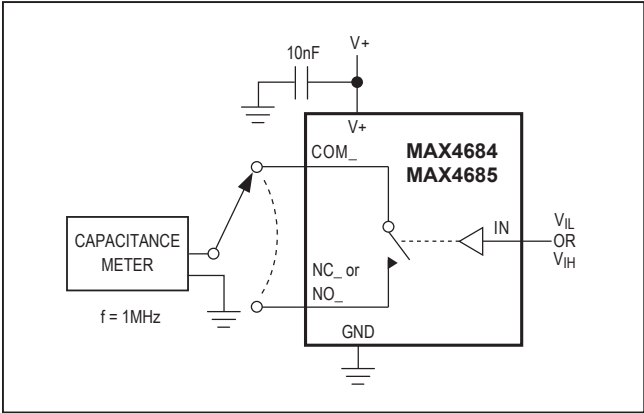

Figure 6. Channel Off/On-Capacitance
| NC_ On-Capacitance                      | C NC_ (ON)                            | f = 1MHz; Figure 6   |                 | +25°C          |       | 190  |       | pF    |
| NO_ On-Capacitance                      | C NO_ (ON)                            | f = 1MHz; Figure 6   |                 | +25°C          |       | 150  |       | pF    |